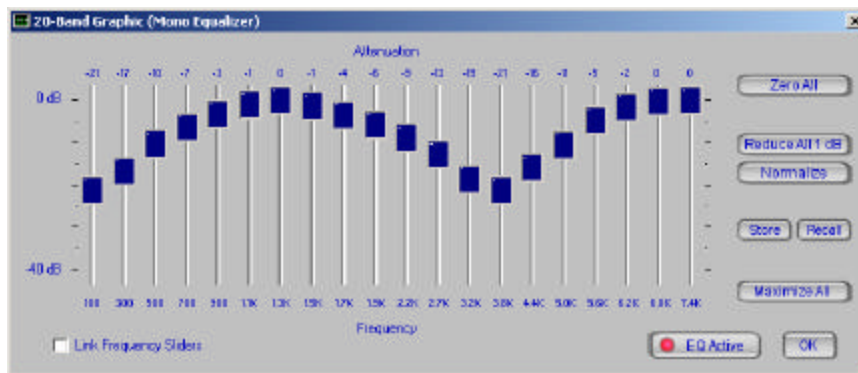

Figure 3-11 Tutorial 20-Band Graphic Equalizer Control Window
33. Click on the **Control** button in the Equalizer block. The window in Figure 3-11 will appear.
34. Use the mouse to set all sliders to match the settings shown in Figure 3-11.